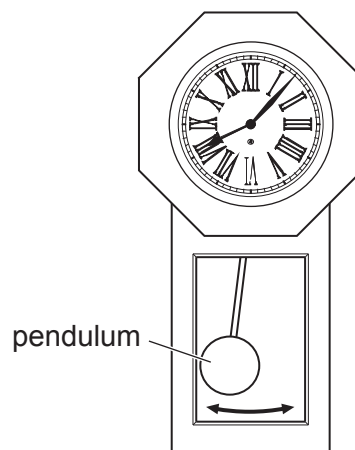

Fig. 4.1
- 4 Fig. 4.1 shows a clock that uses a mechanism to convert motion.